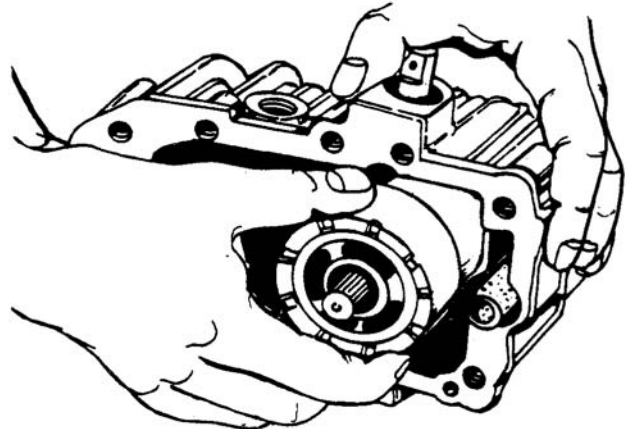

Figure 6-55. Installing Cylinder Block Kits in Housing
- c. Lay housing on its side and slide cylinder block kits into housing (pump, motor). See Figure 6-55.